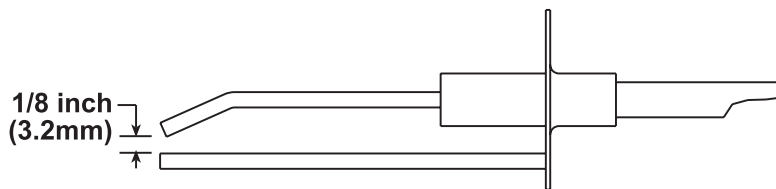

Figure 13. Ignitor Spark Gap
- The spark gap (see Figure 13) must be maintained to 1/8 inch.